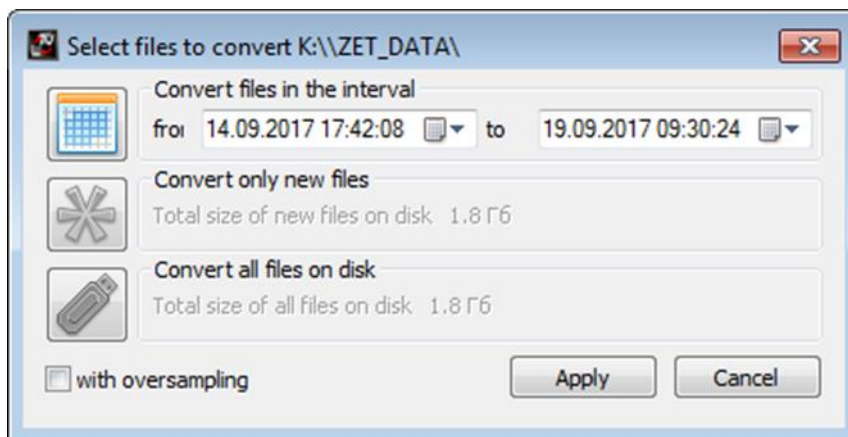

Figure 3.15 “Select files to convert” program window
3. The PC will automatically start the program «Select files to convert». This program is used for copying and converting the files from the recorder’s integrated memory to the PC (Figure 3.15).